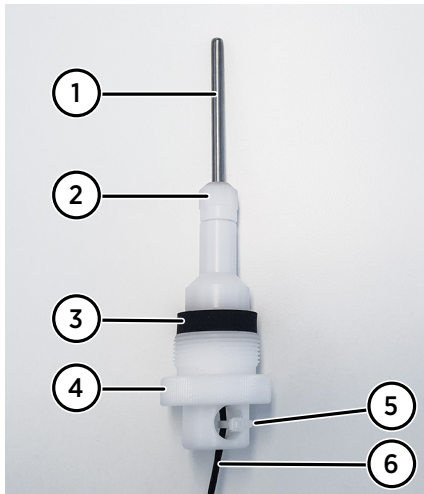

Figure 17 HMP9 probe head with sensor head support 215130
2. Attach the probe head to the sensor head support and secure it with a cable tie. The alternate sensor head support (item code 215130) needed with HMP9 is shown in Figure 17 (page 30).